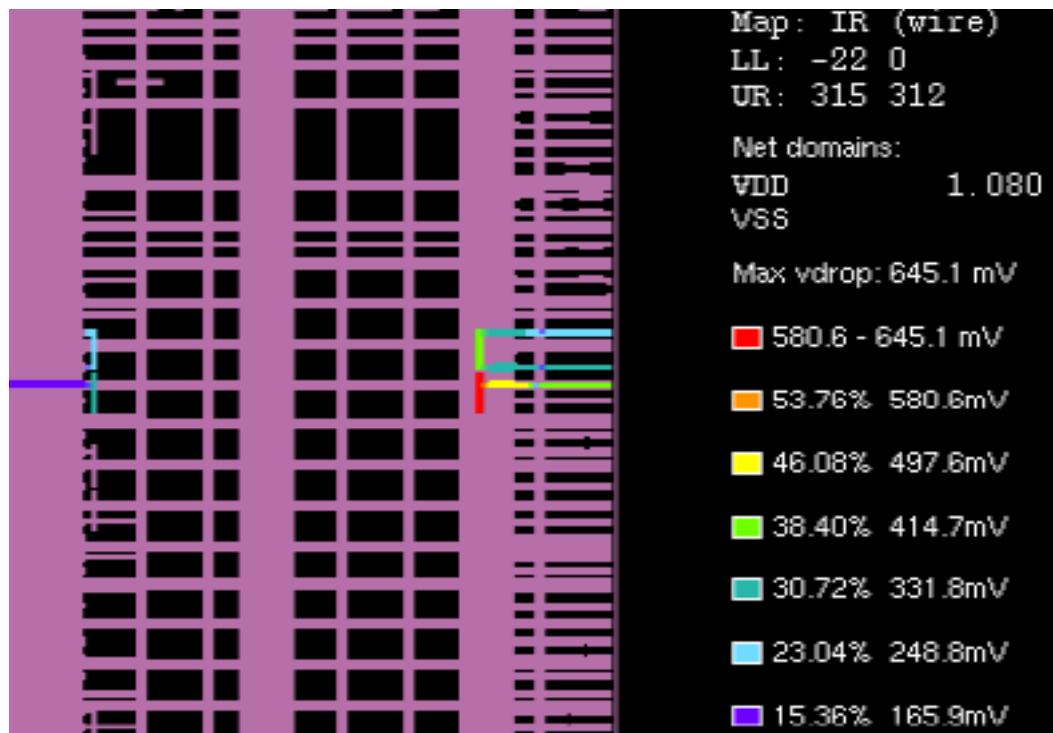

Figure D-1 Example dump of GIF file of RedHawk colormap
- a. The ‘dump gif’ command writes out colormaps in GIF format. You may set the color mapping scale by using ‘config viewlayer’ and ‘config viewnet’ commands, or by using the ‘import guiconf’ command to load a previously saved GUI configuration file for a particular color map. Otherwise, it uses the system default settings. The command generally uses the same color map names as are on the GUI view and menu functions. This command is supported in both GUI mode and Batch mode. The GIF graphic saved is exactly as shown on the display, with the directory path at the bottom and key parameters about the display conditions on the right side, as shown in Figure D-1.